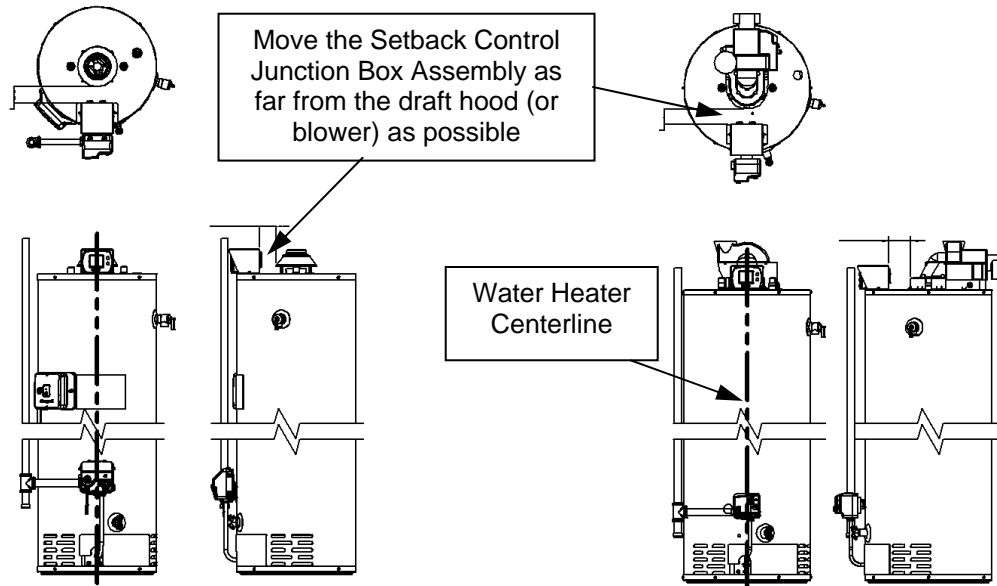

Figure 34
Step 7: Place the Setback Control Junction Box Assembly on top of the water heater. This assembly must face the front of the water heater, and it must be located close to the centerline of the water heater. This is shown in Figure 34. The Setback Control Junction Box Assembly must be located as far from the draft hood as possible, if installed on an atmospheric water heater.